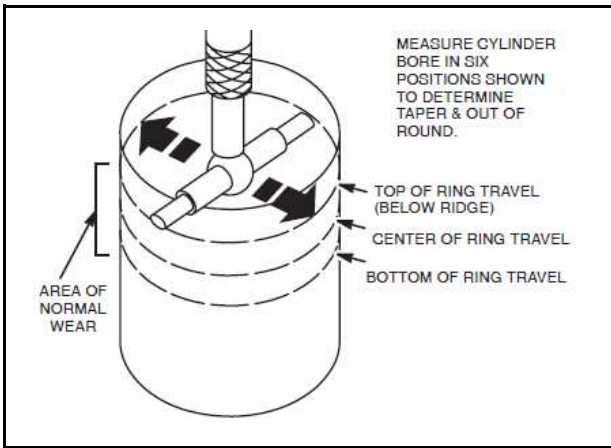

Fig.3-Checking Cylinder Bore
3. Check cylinder bores for wear, Fig.3.
- a. Measure cylinder bore in 6 points at right angles as shown, Fig.3.